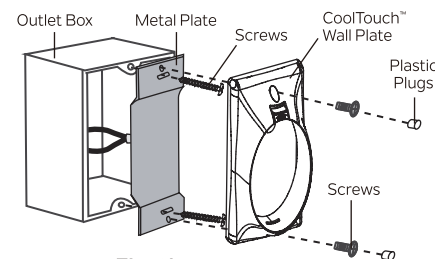

Fig. 18
Step 2. Install the metal plate and CoolTouch™ wall plate to the existing wall outlet box with 4 screws provided. Insert the two plastic plugs into the wall plate. (Fig. 18)